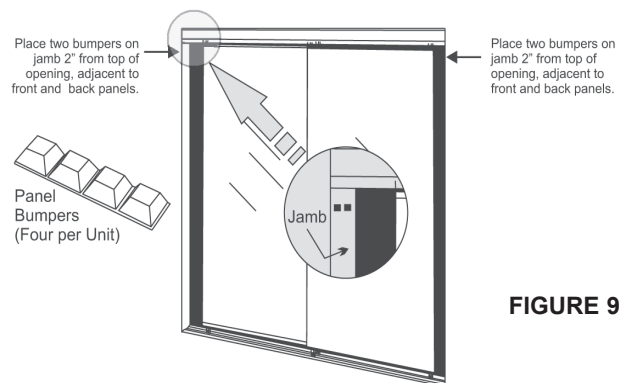

FIGURE 9
Doors are shipped with four (4) panel bumpers to provide a cushion between the door panel and jamb for maximum quiet operation. **Install:** Detach bumpers from strip and attach on jamb where the edge of mirror panel(s) and jamb(s) meet. Attach two (2) bumpers in the **TOP CORNERS** of the opening. Bumpers should be about 2" from the top of the opening. This will accommodate the full bypass function of the panels. (Fig. 9)